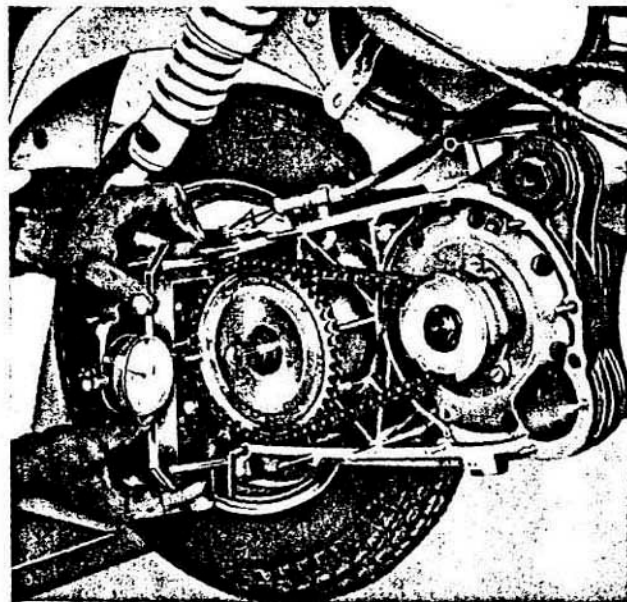

Fig. 23
- b) Remove the spark plug to eliminate compression in the cylinder and place the Tool as shown in Fig. 23, make three readings, rotating the torque damper a quarter of a turn at each reading. If the difference between any two of the readings is more than 0.15 mm., the complete torque damper must be replaced.
- d) Ensure that the torque damper is dead against the collar by tapping it with a mallet, then carry out a reading on the dial gauge as in Fig. 23. This reading should be between 0.05 and 0.1 mm. lower than the